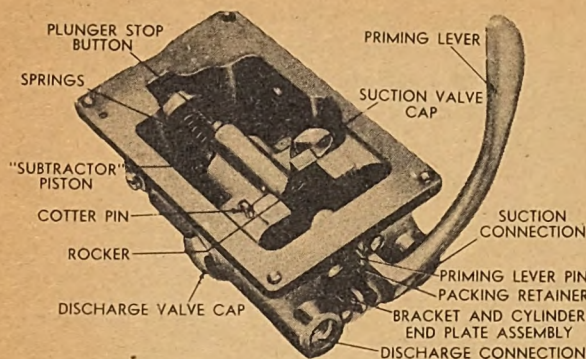

Fig. 276. Fuel Transfer Pump TL 36928
- (3) Remove the cotter pin and, with a punch or brass rod, drive out the rocker trunnion pin. (See Figures 276 and 277.)
- (4) With a screwdriver inserted between the shoulder on the "subtractor" piston and the pump casting, or a soft brass rod inserted on